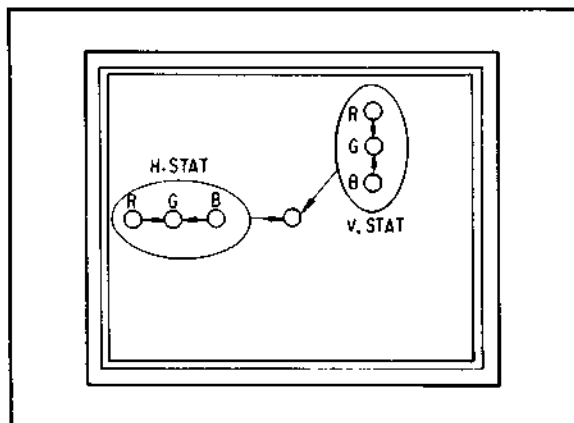
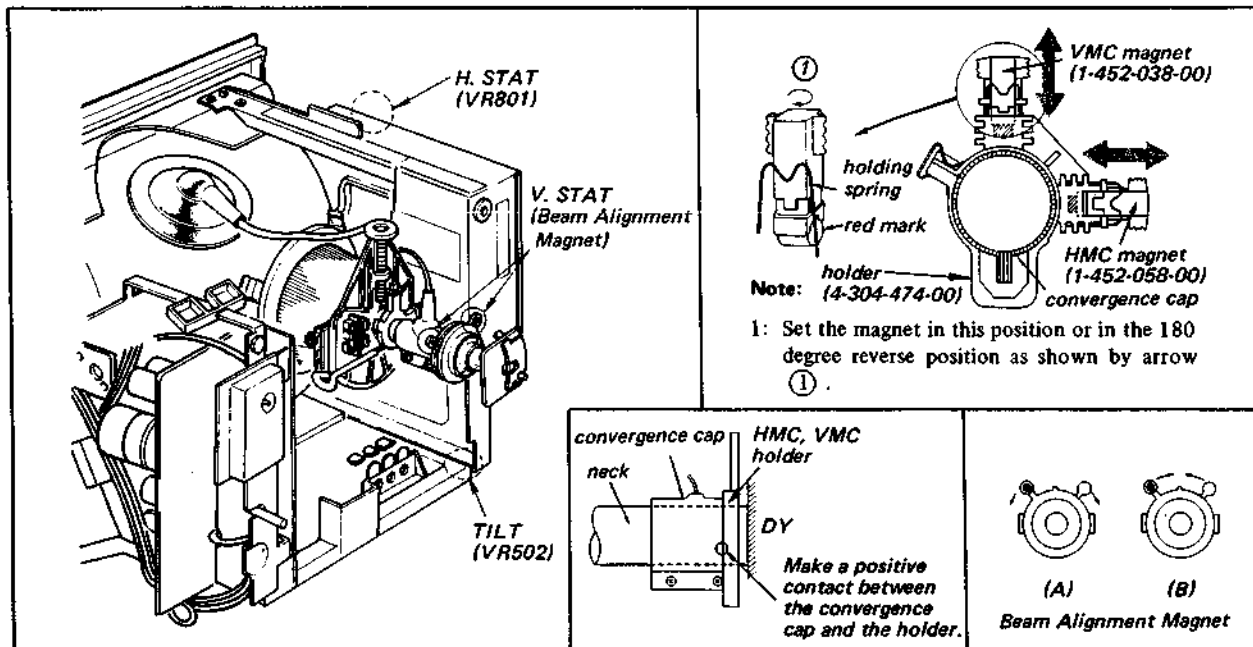

Fig. 3-7. Horizontal and vertical static convergence adjustment
Fig. 3-6. Adjustment parts location of static convergence
This adjustment is made to converge the red, green and blue dots horizontally at centre of the screen as shown in Fig. 3-7.
1. Adjust VR801 (H. STAT, See Fig. 3-6) to converge the dots horizontally at centre of the screen, as shown in Fig. 3-7.
Note: Almost all sets do not require adjustment by using HMC (for horizontal static convergence) or VMC (for vertical static convergence) therefore they do not have HMC or VMC magnets. Perform the following procedures only for the sets having them or when correct centre convergence cannot be obtained in above step. For HMC or VMC installation, refer to Fig. 3-6.
2. If only the blue dots do not converge and are shifted in one direction, move the HMC magnet horizontally as necessary, as shown in Fig. 3-6. Note that after moving the HMC magnet, Beam Landing Adjustments and Focus Adjustment should be performed.
1. Move the two tabs of beam alignment magnet (attached at the end of picture tube neck) equal amounts in opposite directions (See Fig. 3-6) so that the red and blue dots converge with green dots as shown in Fig. 3-7.
2. If only the blue dots do not converge and shifted in one direction, move the VMC magnet vertically as necessary, as shown in Fig. 3-6. Note that after moving the BMC magnet, Beam Landing Adjustments and Focus Adjustment should be performed.